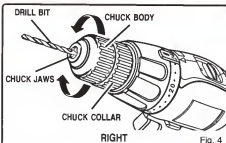

Fig. 4
See Figures 4 and 5.
- Insert your drill bit into the chuck the full length of the jaws. See Figure 4.
See Figure 4.